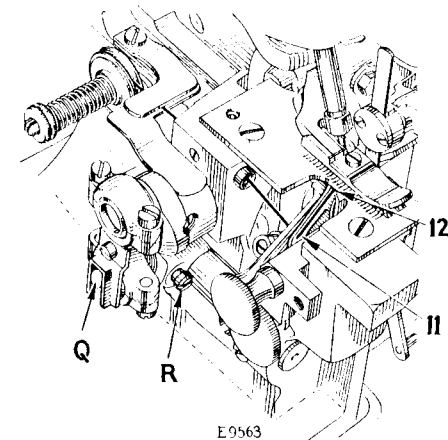

Fig. 44
A variation in the amount of the looper motion can be obtained by adjusting the ball stud (Q, Fig. 44). To increase this motion, loosen the set screw (R, Fig. 44) in the looper lever and move the ball stud (Q) inwardly or toward the looper lever. To decrease the motion, move the ball stud outwardly or away from the looper lever. After the desired motion has been obtained, securely tighten the set screw.